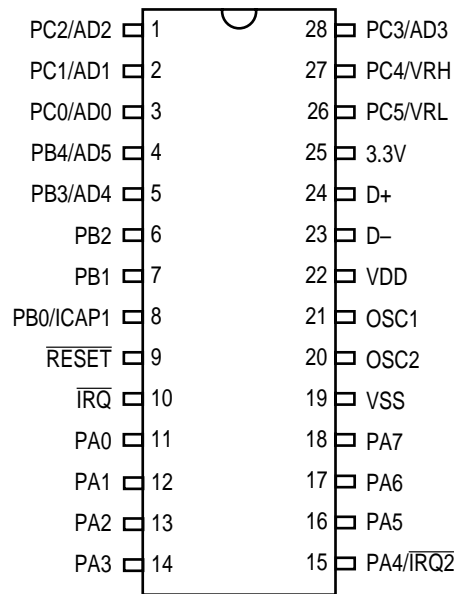
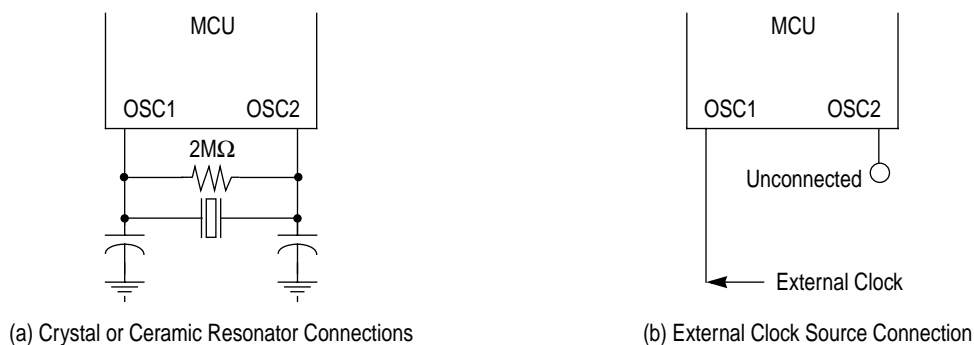

Figure 1-2. MC68HC05JB4 Pin Assignment
Figure 1-3. Oscillator Connections
The following paragraphs give a description of the general function of each pin assigned in Fig. 1-2 and Fig. 1-3.
1. A crystal as shown in **Figure 1-3(a)**
2. A ceramic resonator as shown in **Figure 1-3(a)**
3. An external clock signal as shown in **Figure 1-3(b)**
The circuit in **Figure 1-3(a)** shows a typical oscillator circuit for an AT-cut, parallel resonant crystal. The crystal manufacturer's recommendations should be followed, as the crystal parameters determine the external component values required to provide maximum stability and reliable start-up. The load capacitance values used in the oscillator circuit design should include all stray capacitances. The crystal and components should be mounted as close as possible to the pins for start-up stabilization and to minimize output distortion. An internal start-up resistor of approximately $2\text{ M}\Omega$ is provided between OSC1 and OSC2 for the crystal type oscillator as a mask option.
In cost-sensitive applications, a ceramic resonator can be used in place of the crystal. The circuit in **Figure 1-3(a)** can be used for a ceramic resonator. The resonator manufacturer's recommendations should be followed, as the resonator parameters determine the external component values required for maximum stability and reliable starting. The load capacitance values used in the oscillator circuit design should include all stray capacitances. The ceramic resonator and components should be mounted as close as possible to the pins for start-up stabilization and to minimize output distortion. An internal start-up resistor of approximately $2\text{ M}\Omega$ is provided between OSC1 and OSC2 for the ceramic resonator type oscillator as a mask option.
An external clock from another CMOS-compatible device can be connected to the OSC1 input, with the OSC2 input not connected, as shown in **Figure 1-3(b)**. This configuration is possible **ONLY** when the crystal/ceramic resonator mask option is selected.